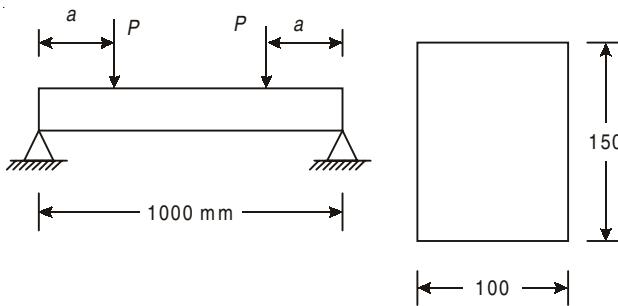

Fig. 4
12. A 100 mm × 150 mm wooden bar is to be symmetrically loaded with two equal forces, P (Fig. 4). Determine the position of loads and their